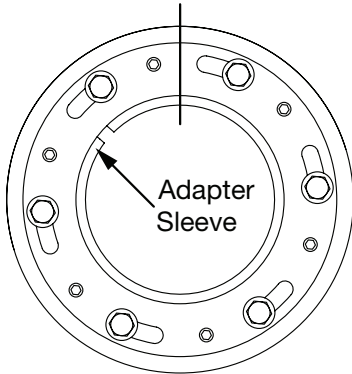

Figure 2 - Mark face of external nut and adapter.
4. **Important: Mark a line on the adapter and external nut to be used as a location reference – see Figure 2. This is a critical point and represents the location of the nut assembly before the socket head cap screws are tightened.**